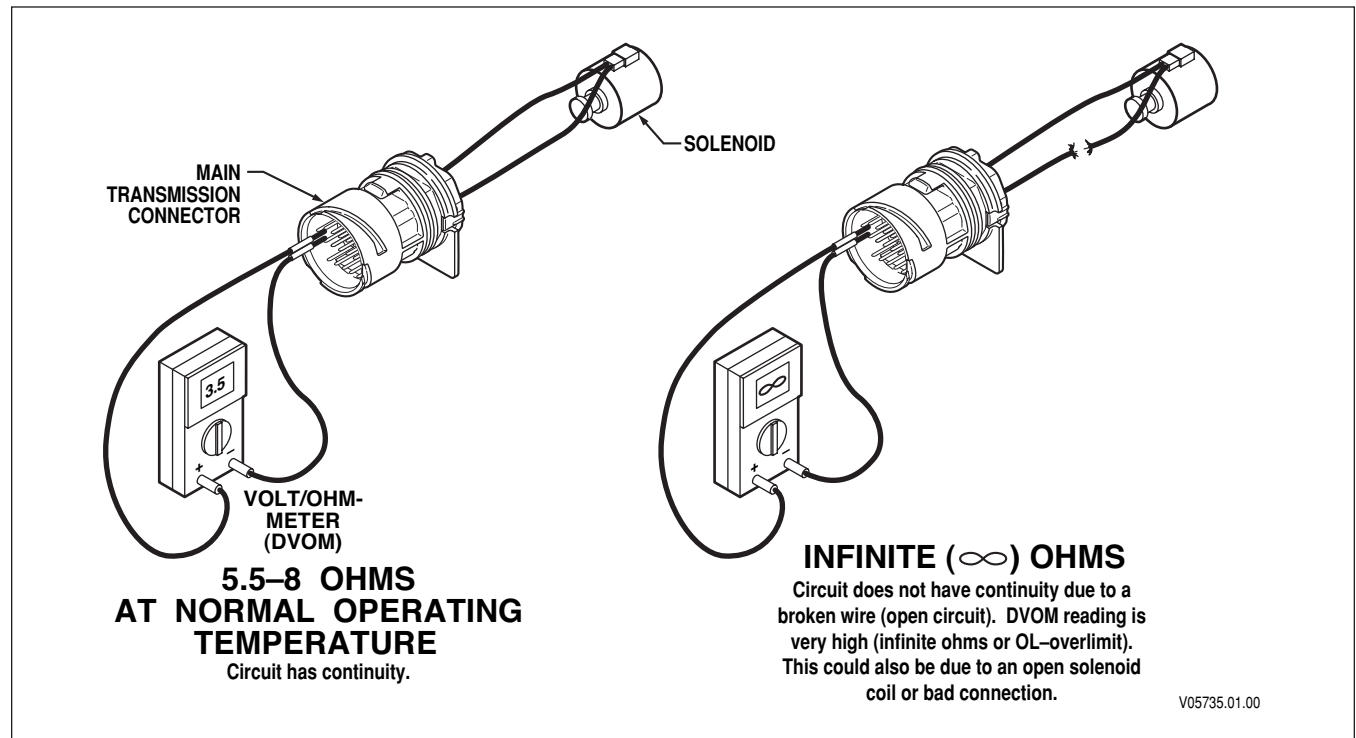
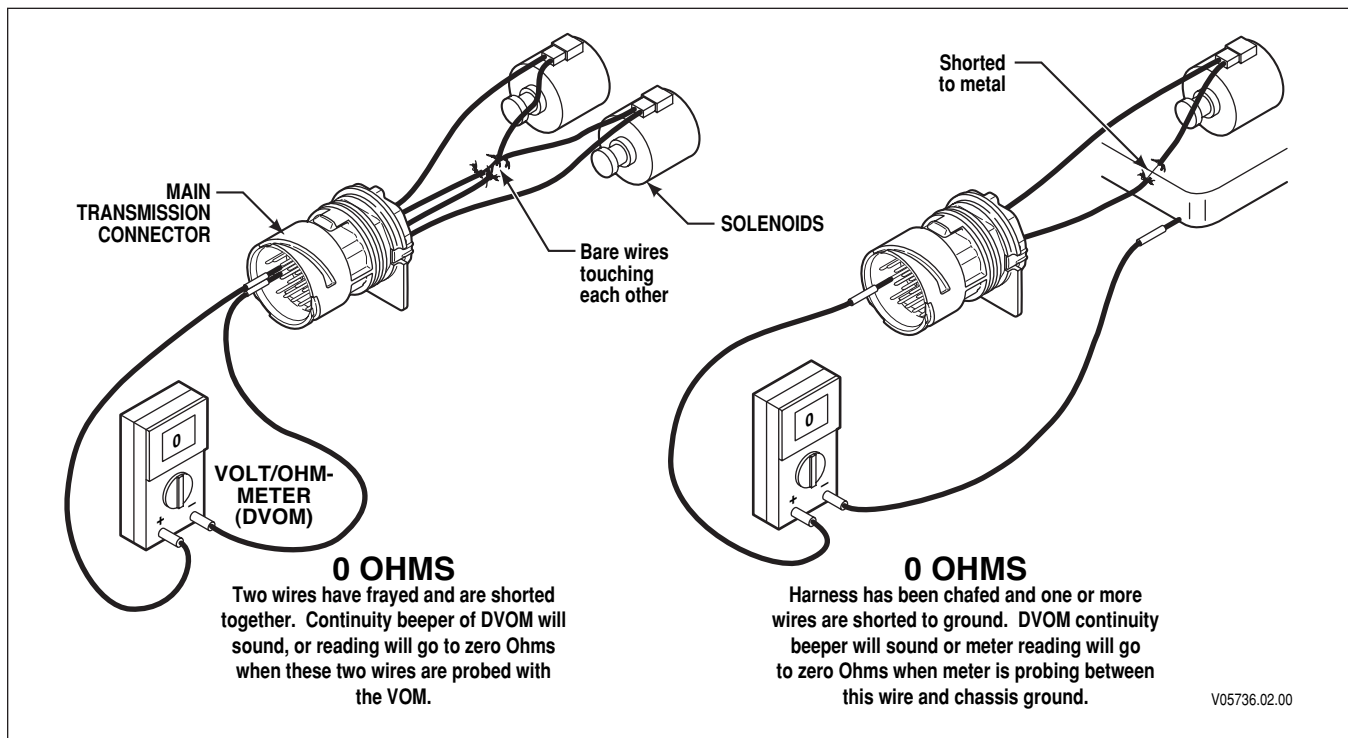

Figure 4-3. Checking Continuity (Internal Harness)
Figure 4-4. Short Between Wires and to Ground (Internal Harness)
3. If the connectors are clean and properly seated, determine which wires in the harness to test. Use the diagnostic code system schematic to locate the wire terminals. For this example, DTC P2727 and P2729 indicate an open or a short-to-ground in the PCS1 circuit—wires 111 and 155 (refer to Figure 4-3 and Figure 4-4).
- b. If the resistance check is good, check the harness for shorts between wires and to ground by performing the following (refer to Figure 4-4):
- (1) At the transmission connector, touch one probe of the DVOM to one wire of the circuit being tested and touch the other probe to each terminal in the connector and to chassis ground and the transmission main housing. Do this for both wires in the circuit being tested.
- (2) If the DVOM shows zero to low resistance, or the continuity beeper sounds, there is a short between the two points being probed, wire-to-wire or wire-to-ground. An indication of a short may be caused by a splice to the wire being checked. Check the wiring diagram in Appendix J for splice locations. If the short is not a splice, then isolate and repair the short.